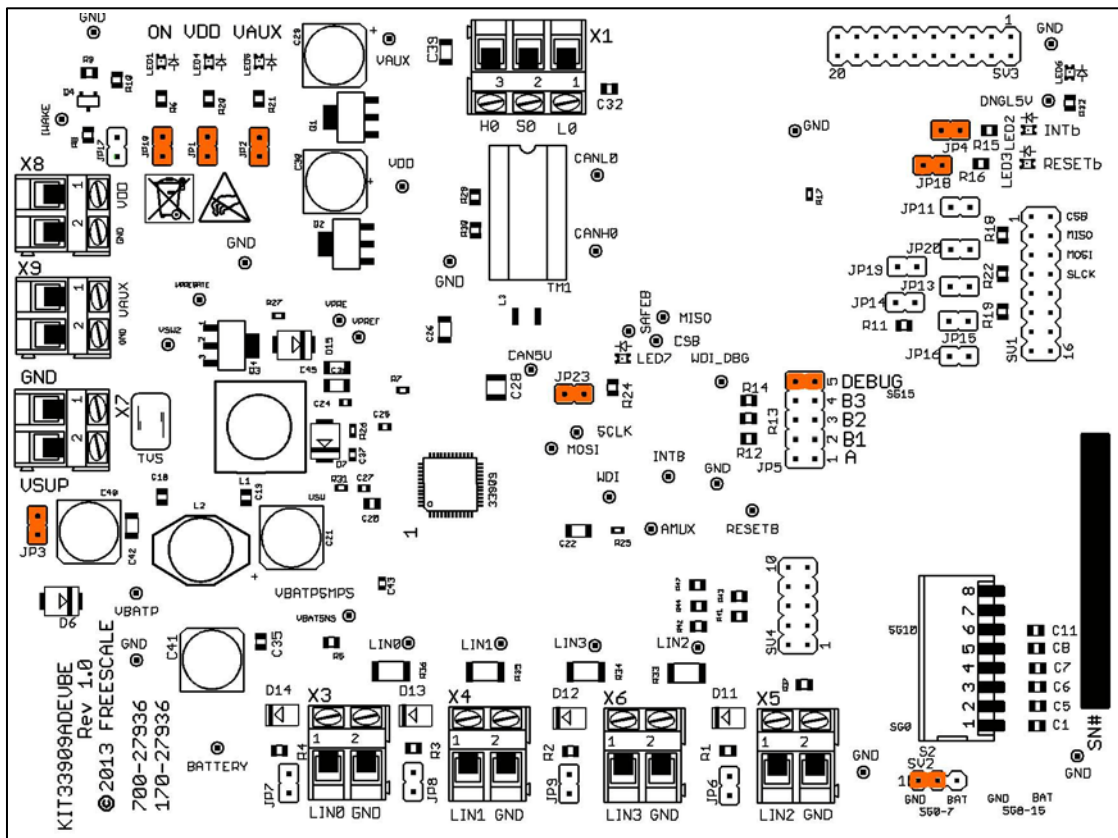

Figure 6. Jumper locations on the KIT33909ADEVBE evaluation board
3. Set the EVB Jumpers and Switches as needed. (Refer to the jumper locations in Figure 6 and the jumper definitions in Table 10)